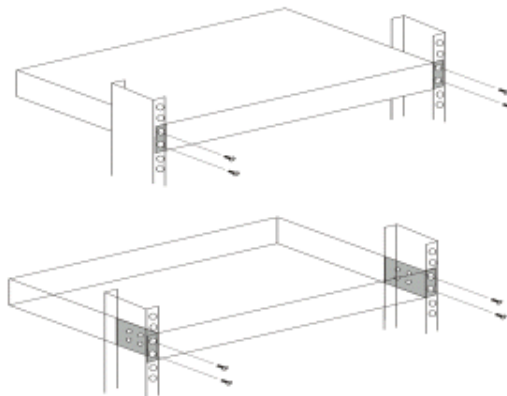

Figure 2-1. LPGS-2424C Switch Rack-mounting
Step 2. Align the mounting holes in the brackets with the desired holes in the rack, and insert screws through each bracket and into the rack. (See Figure 2-1)